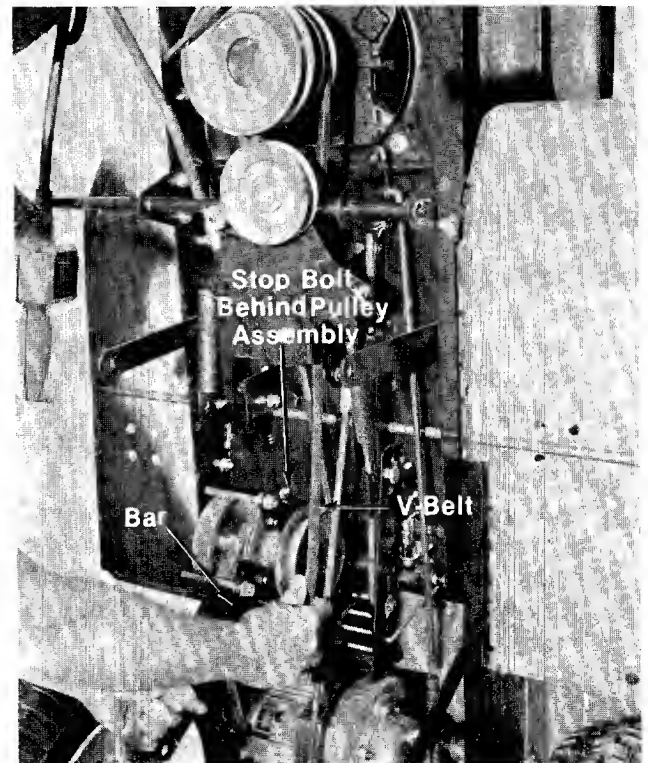

FIGURE 20.
7. Using a bar or large screwdriver, pry the pulley assembly towards the front of the tractor and unhook the belt from the pulley. See figure 20.